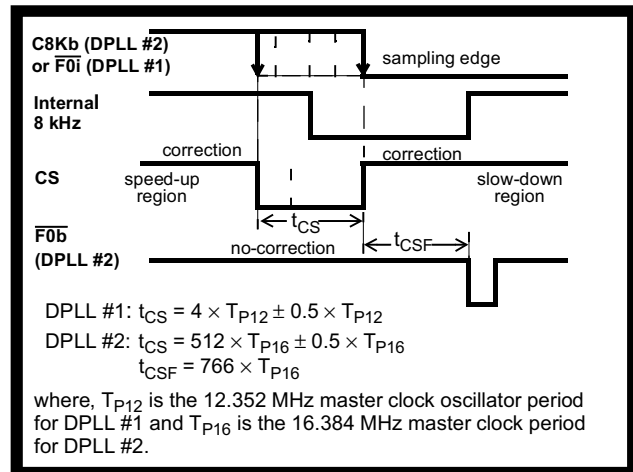

Figure 4 - Phase Comparison
As shown in Figure 4, the falling edge of the 8 kHz input signal (C8Kb for DPLL #2 or $\overline{F0i}$ for DPLL #1) is used to sample the internally generated 8 kHz clock and the correction signal (CS) once in every frame (125 μ s). If the sampled CS is "1", then the DPLL makes a speed-up or slow-down correction depending upon the sampled value of the internal 8 kHz signal. A sampled "0" or "1" causes the frequency correction circuit to respectively stretch or shrink the master clock by half a period at one instant in the frame. If the sampled CS is "0", then the DPLL makes no correction on the master clock input. Note that since the internal 8 kHz signal and the CS signal are derived from the master clock, a correction will cause both clocks to stretch or shrink simultaneously by an amount equal to half the period of the master clock.
The no-correction window size is 324 ns for DPLL #1 and 32 μ s for DPLL #2. It is possible for the relative phase of the reference signal to swing inside the no-correction window depending on its jitter and the relative drift of the master clock. As a result, the phase relationship between the input signal and the output clocks (and frame pulse in case of DPLL #2) may vary up to a maximum of window size. This situation is illustrated in Figure 4. The maximum phase variation for DPLL #1 is 324 ns and for DPLL #2 it is 32 μ s. However, this phase difference can be absorbed by the input jitter buffer of Mitel's T1/CEPT devices.